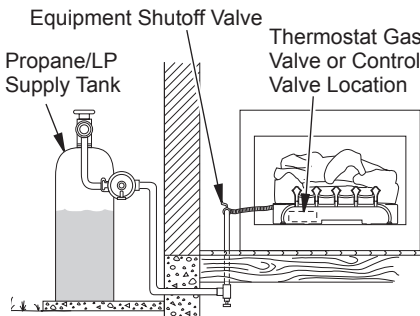

Figure 15 - Checking Gas Joints (Propane/LP Gas Only)
3. Check all joints from gas meter for natural or propane/LP supply to equipment shutoff valve (see Figure 15 or 16). Apply a noncorrosive leak detection fluid to all joints. Bubbles forming show a leak.
4. Check all joints from equipment shutoff valve to thermostat gas valve (see Figure 15 or 16). Apply a noncorrosive leak detection fluid to all joints. Bubbles forming show a leak.